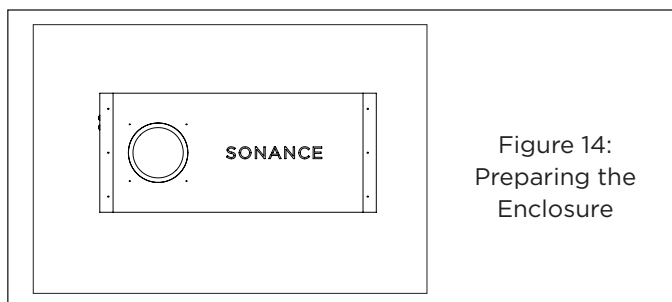

Figure 14: Preparing the Enclosure
1. For precise flush alignment with drywall, it can be helpful to place the enclosure on a table with the ceiling materials nearby so that the appropriate spacer thickness can be selected prior to enclosure installation (see Figure 14).